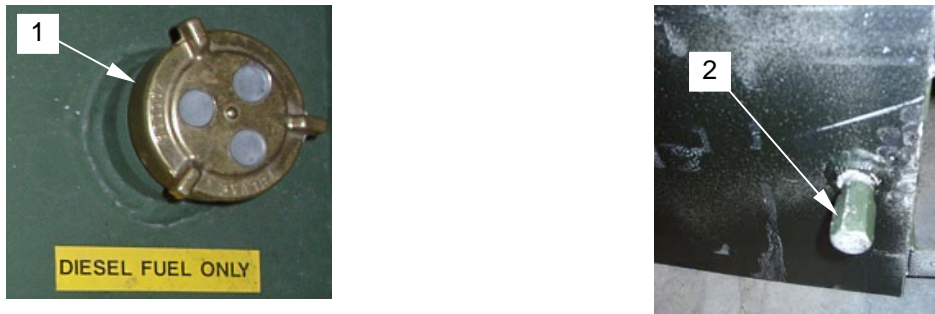

Figure 1. Fuel Filler Cap and Drain Plug
3. As applicable, remove the filler cap (retain) (**figure 1, item 1**) and drain the fuel tank by removing the drain plug (**figure 1, item 2**). Drain fuel into an approved container.